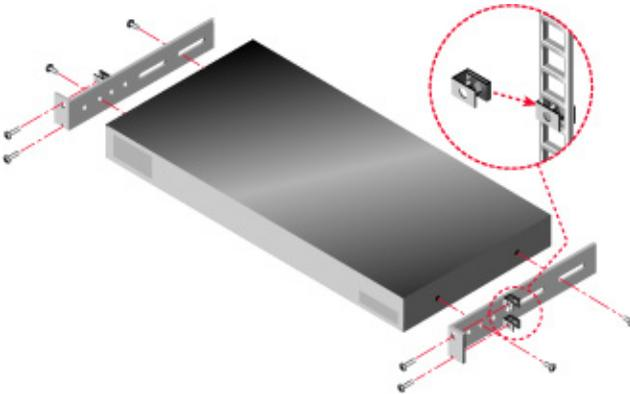

Figure 3: Appliance horizontal installation
- ▶ As shown in Figure 3, mount the appliance assembly to the rack by matching the holes in the short side of each mounting bracket to a set of matching holes on the rack. Insert the combination hex-head screws through the slots in the mounting bracket and the holes in the mounting rail, then into the cage nuts or clip nuts.